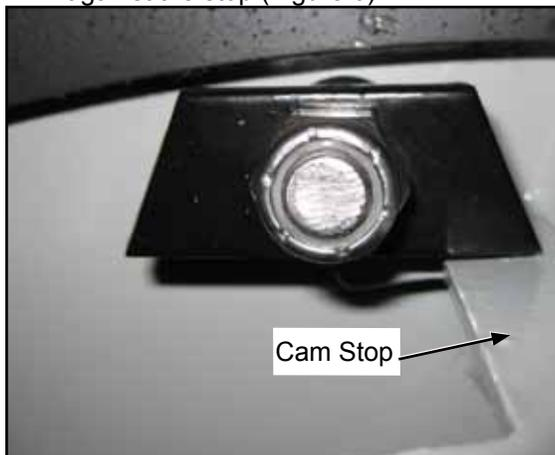

Figure 6: Cam Lock Open
- b. Cam locks are fully open with the long edge against the stop (Figure 6)